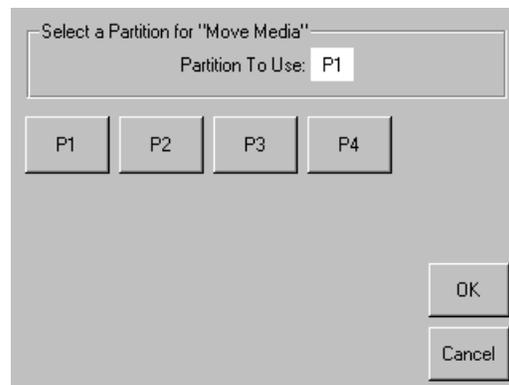

Figure 5-12: Select Partition for the Move Operation
2. If the library is partitioned, you are prompted to select the partition for the move operation (Figure 5-12) (P1, P2, etc.), then press **OK**.